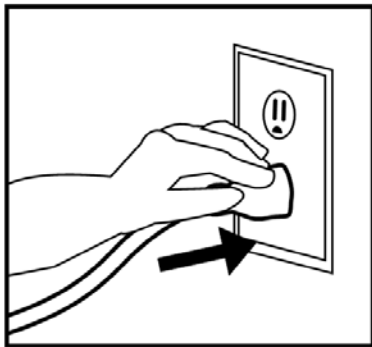

Fig 24
5. Plug the charger's power cord into wall outlet (Fig. 24).